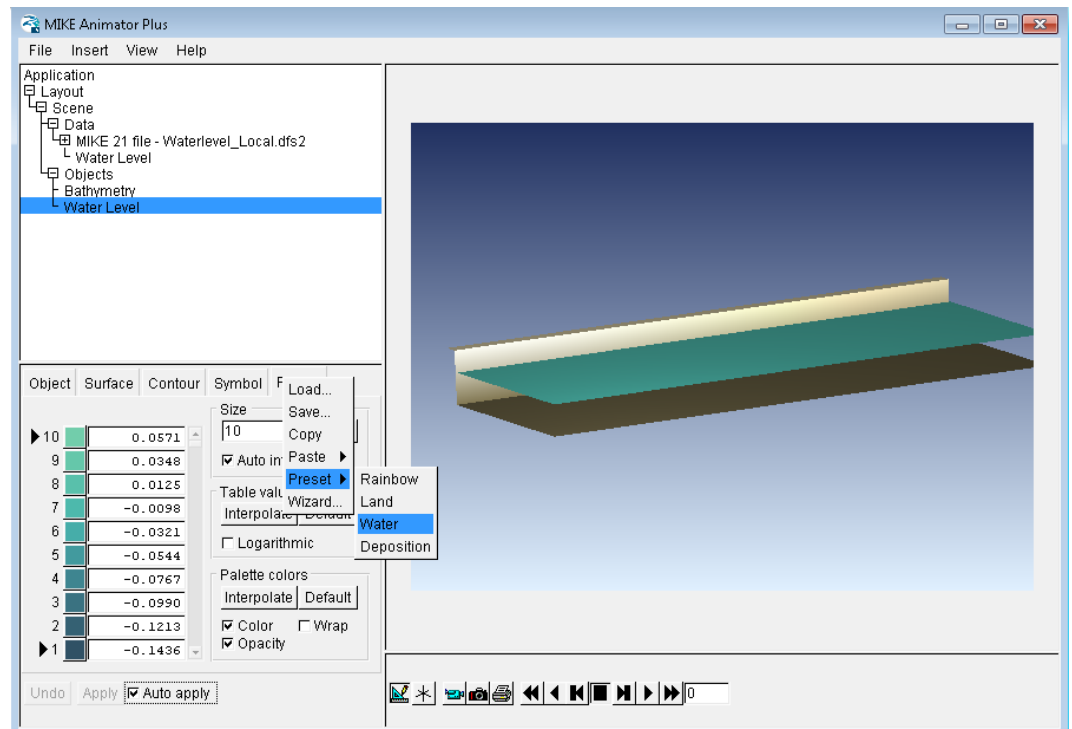

Figure 3-32 Adding data to existing scene
8. From the drop-down menu select 'Preset' and 'Water', see Figure 3-32.